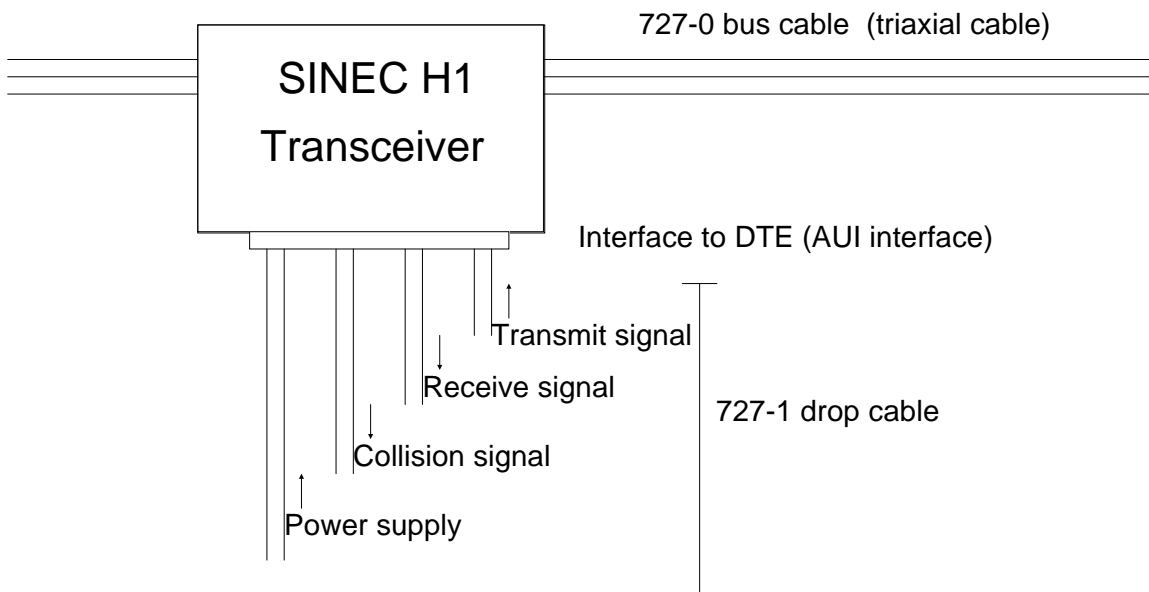

Fig. 2.5: The Functions of the SINEC H1 Transceiver
- Splitting the bus signal into signals for the interface to the DTE (AUI interface) with transmit signal, receive signal and collision signal (see Fig. 2.5).
The DTEs supply the transceivers with power (see Fig. 2.5). This allows the transceivers to be connected in inaccessible places such as in closed cable conduits.